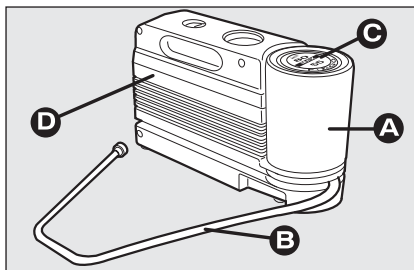

fig. 2
The kit **fig. 2** includes:
- compressor **D-fig. 2** including gauge and connections;